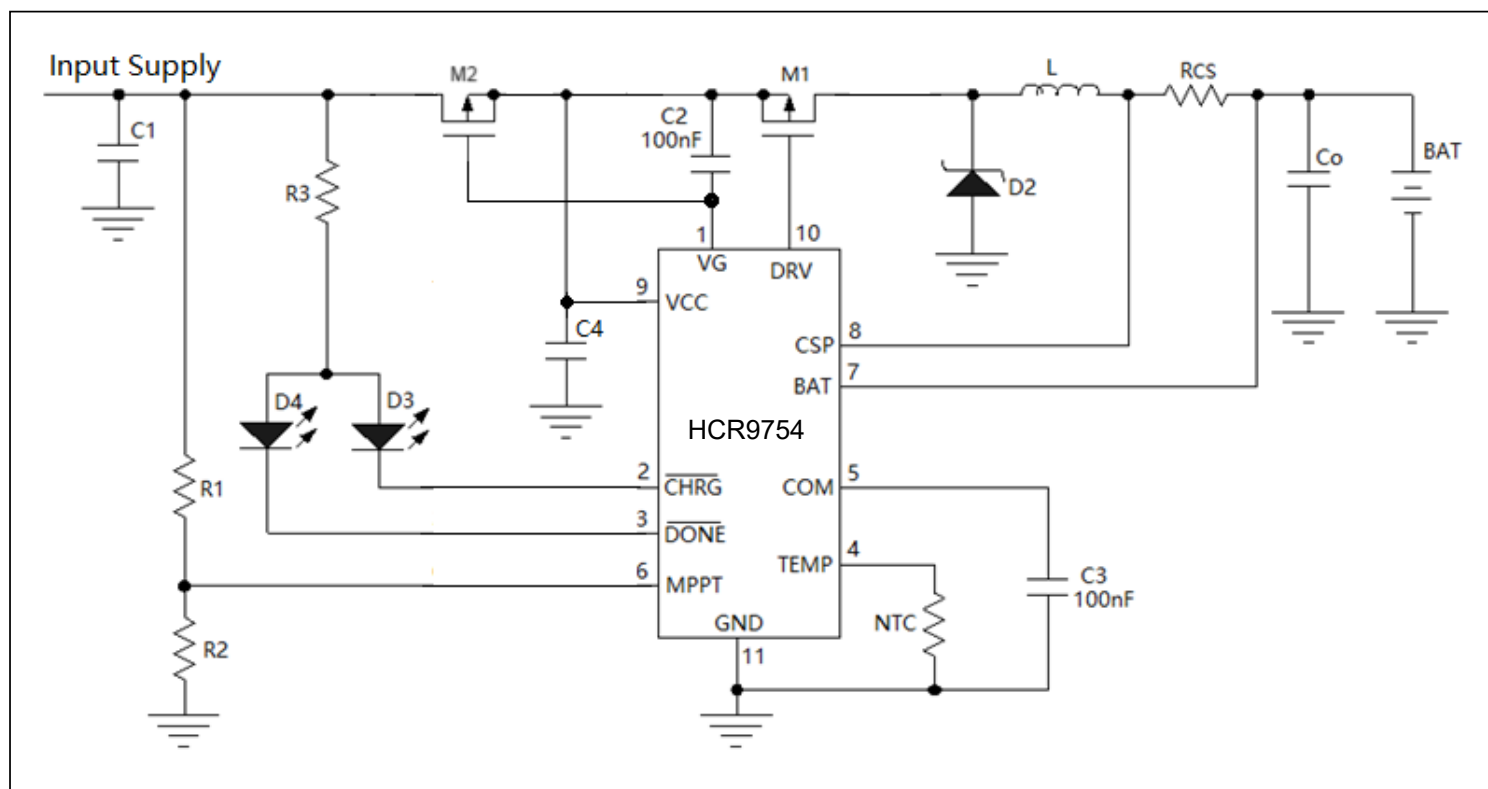

Figure 5. P-channel MOSFET to Block Battery Current Flowing back
In the application circuit of Figure 5, diode D1 is used to prevent the battery current from flowing back. The diode D1 can be replaced by a P-channel MOSFET
as shown in Figure 5 to reduce power dissipation, M2 serves the purpose. C4 in Figure 3 is ceramic capacitor whose capacitance is between 1 μ F and 10 μ F, and should be very close to HCR9754's V_{CC} pin in PCB.
(5) Analog ground and power ground (or switching ground) should return to system ground separately.
(6) The ground pins also works as a heat sink, therefore use a generous amount of copper around the ground pins. This is especially important for high V_{CC} and/or high gate capacitance applications.
(7) Place the charge current sense resistor R_{CS} right next to the inductor output but oriented such that the IC's CSP and BAT traces going to R_{CS} are not long. The 2 traces need to be routed together as a single pair on the same layer at any given time with smallest trace spacing possible.
(8) The CSP and BAT pins should be connected directly to the 2 terminals of current sense resistor (Kelvin sensing) for best charge current accuracy. See Figure 5 as an example.